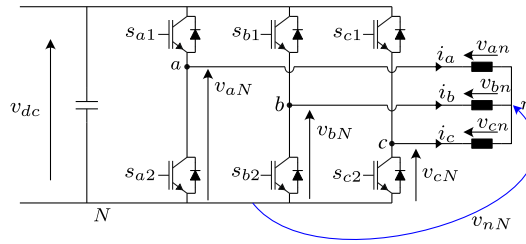

Figure 1: 3-phase 2-level converter.
2. Implement the power converter shown in Fig. 1 in PLECS with a proper PWM stage.